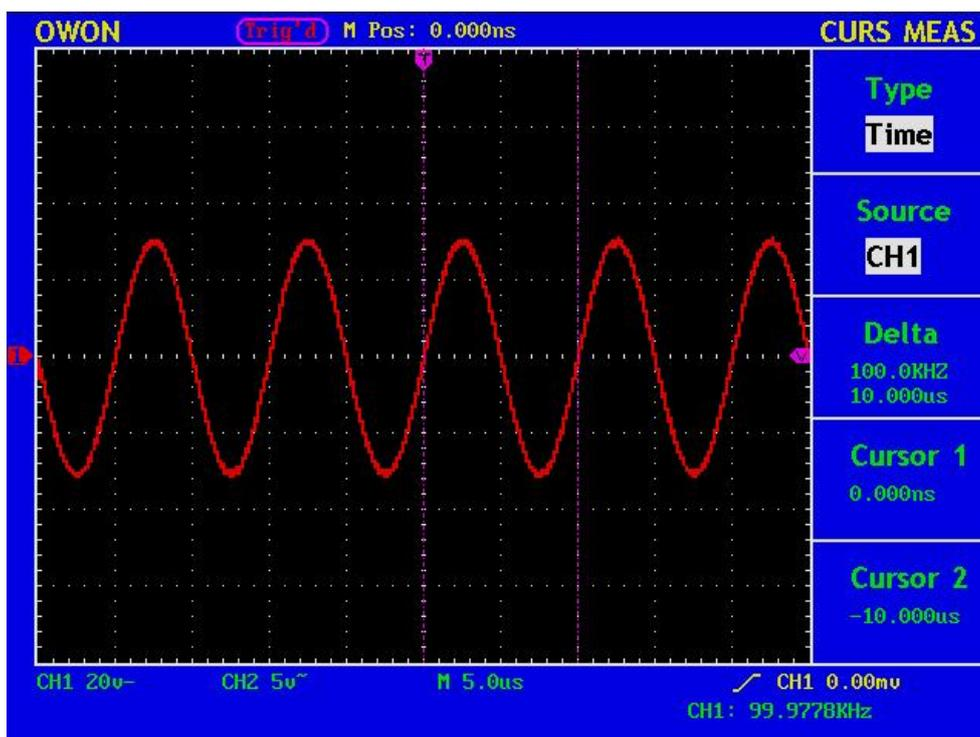

Fig. 72 Wave Form of Cursor Measurement
4. Adjust the positions of **CURSORM1** and **CURSORM2** according to the measured waveform, with the period and frequency of Cursor1 and Cursor 2 displayed in the increment window. The current position of Cursor1 is displayed in the Cursor1 window and that of Cursor2 is displayed in the Cursor2 window (see Fig. 72).